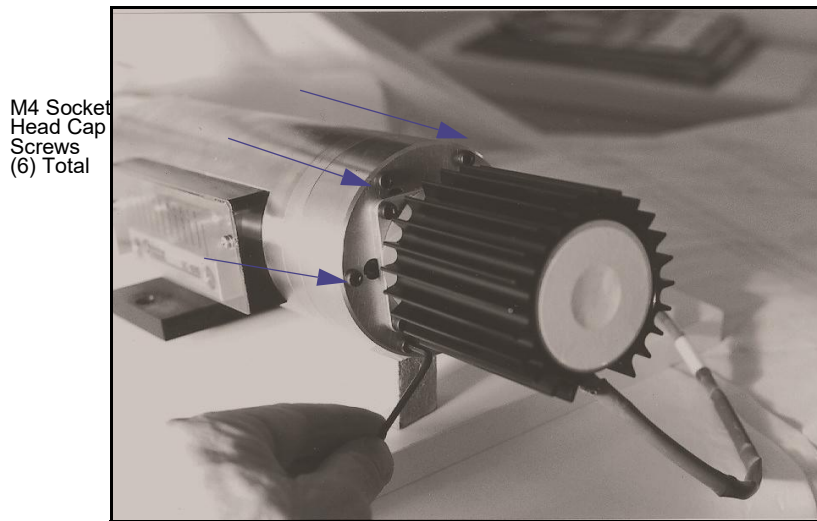

Figure 13-9 **M4 Socket Head Screw Locations**
2. Use a 3 mm right angle Allen wrench to break loose the six M4 socket head cap screws (SHCS) securing the motor adaptor housing to the pump body. See Figure 13-9 for the location of the mounting screws that secure the motor adapter to the pump body housing. A ball-end Allen driver can then be used to remove the screws.